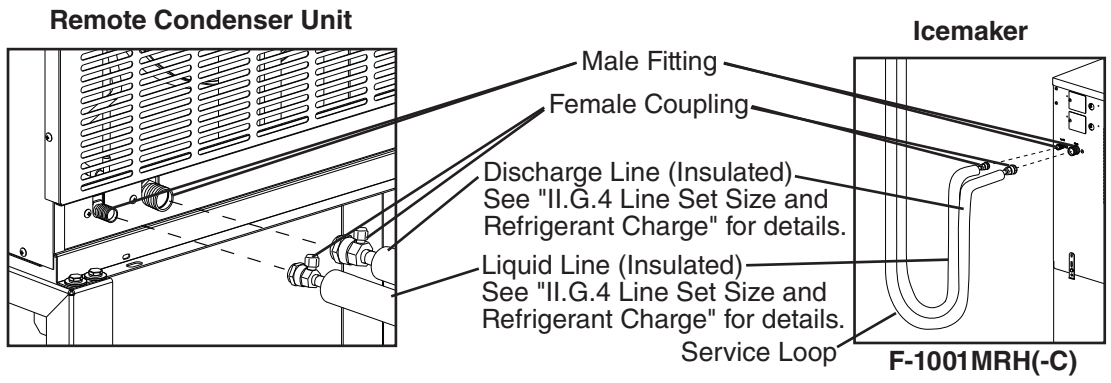

Fig. 10
- 1) Route the factory line set (see "II.G.4 Line Set Size and Refrigerant Charge" for details) from the remote condenser unit to the icemaker. Leave a service loop behind the icemaker to allow the icemaker to be pulled out for service. See Fig. 10. Factory fabricated line sets are precharged and do not need to be evacuated. If the line set is too long or too short, see "II.G.5.a)(1) Factory Line Set Modification."
- 1) Route the copper tube liquid line and copper tube discharge line (see "II.G.4 Line Set Size and Refrigerant Charge" for details) from the remote condenser unit to the icemaker. Leave a service loop behind the icemaker to allow the icemaker to be pulled out for service. See Fig. 10.